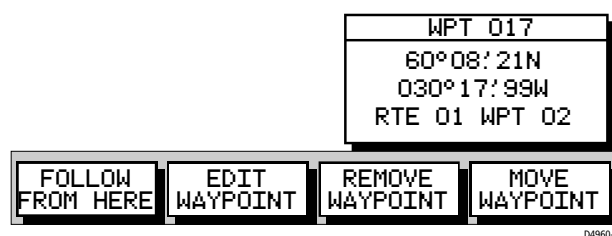

Figure 3-35: Waypoint Data Box and Soft Keys
- To display information about a route waypoint, move the cursor over the waypoint until the letters **WPT** appear. The Waypoint Data Box is displayed, together with the Follow Route soft keys as shown in *Figure 3-35*.